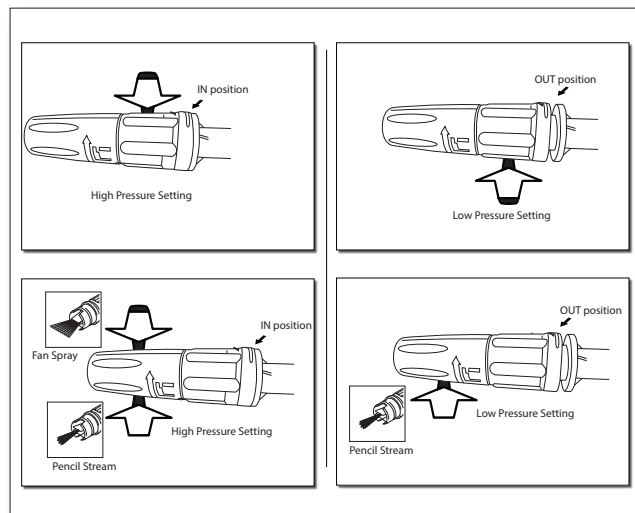

Fig. 11
- The adjustable spray nozzle had has two (2) positions (**Fig. 11**):